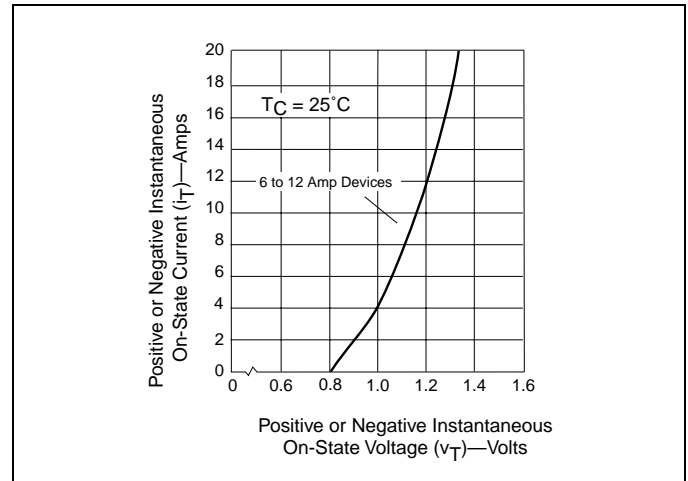

Figure 4.5 On-State Current vs On-State Voltage (Typical) (6-12 Amp Devices)
- See Figures 4.5 and 4.6 for I_T and v_T .